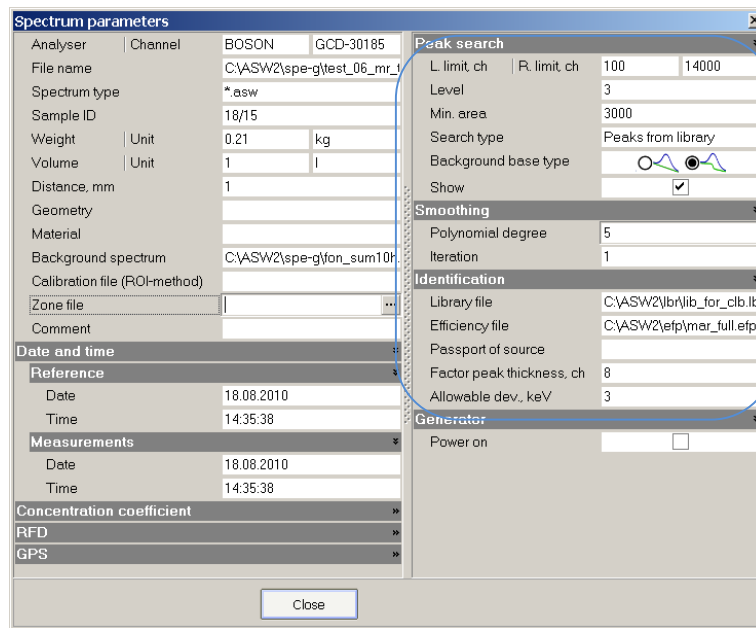

Figure 36
For the method to work accurately, the user must fill in fields in the **Spectrum parameters** window with relevant values. Main parameters determining the work of the method being described are concentrated in the right table of parameters (see Fig. 36) in **Search Peaks, Smoothing, Identification** groups.
6.2.3 If parameters of any measured spectrum need to be changed, the **Spectrum parameters** window should be used (see Fig. 36)
6.2.4 Depending on the task, specify one of search types ('**Search and Identification**', '**Peaks from library**') in the **Type search** field (Fig.36).